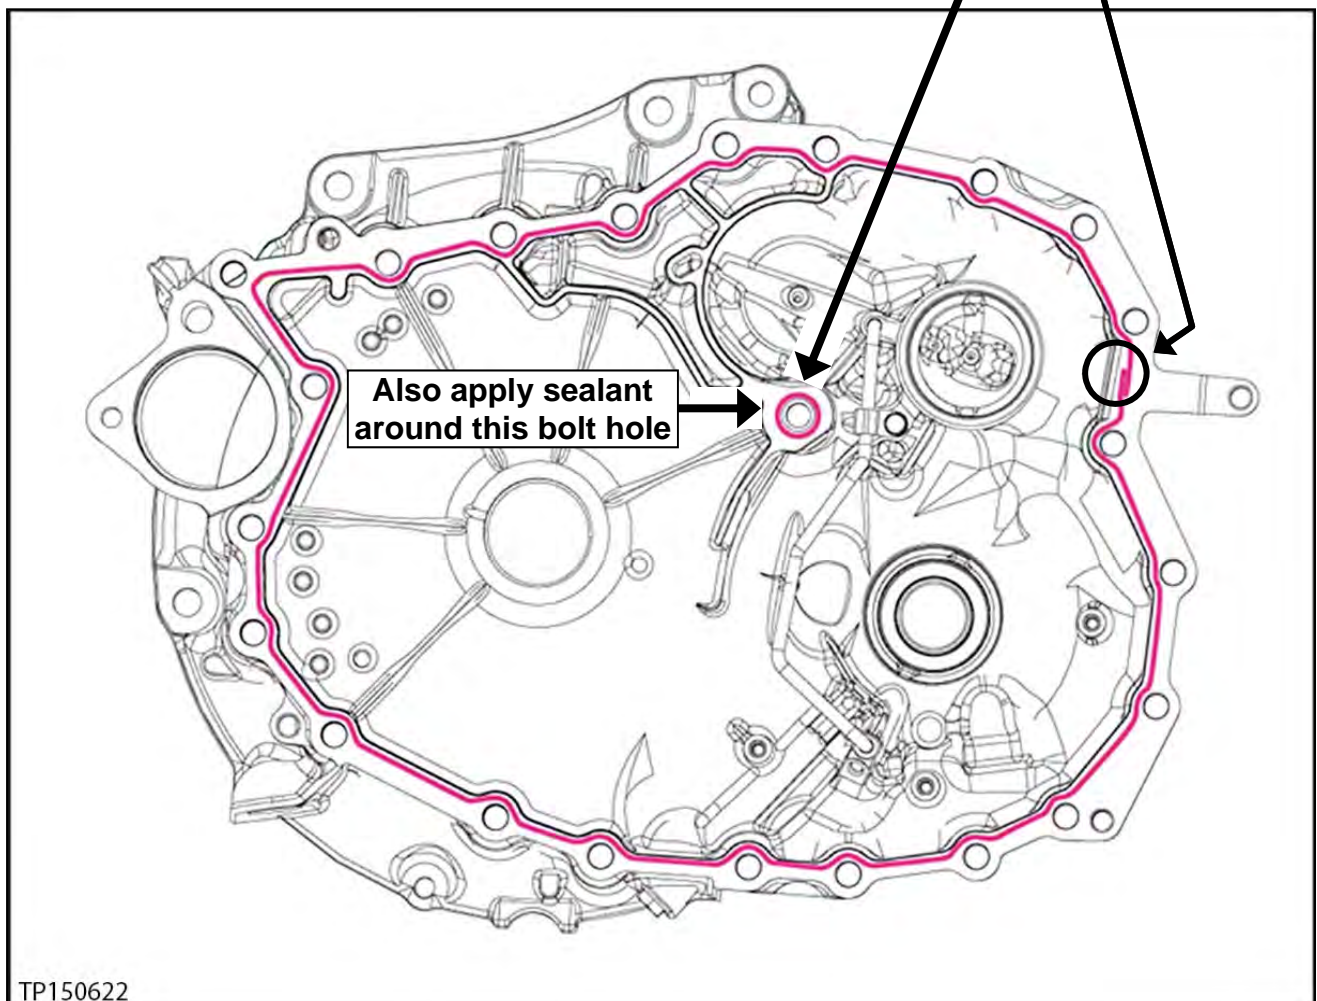

Figure 148
112. Apply one continuous, 2.0 mm (**0.8 inches**) diameter, bead (Figure 148) of pink colored Loctite 5460 Sealant (see **PARTS INFORMATION** on page 92).
- Before sealant application, make sure the mating surfaces are clean from oil, dirt, old sealant, etc. (Figure 148).